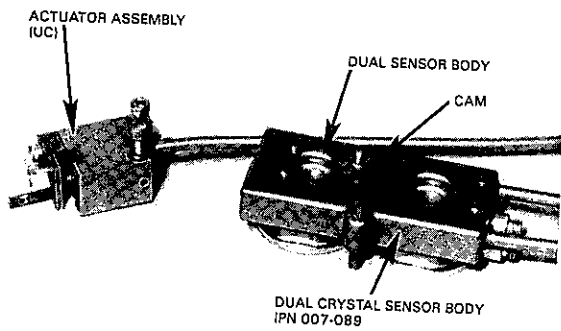

Fig. 5-7a Actuator Assembly & Dual Sensor Body
- Step 3: Add the cam assembly to the dual sensor body as shown in Fig. 5-7a.